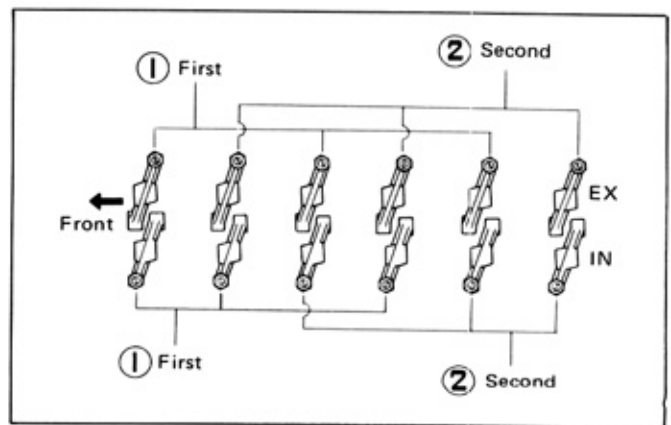

Fig. 18-73 Valve Clearance Adjustment Order (4M)
- (5) For the 4M engine, remove the engine front under pan, and set the No. 1 piston to compression top dead center by turning the crankshaft with a wrench.
- Check and adjust the valve clearances ① shown in Fig. 18-73.
- Next, turn the crankshaft one full rotation, and check and adjust the valve clearances ② shown in Fig. 18-73.